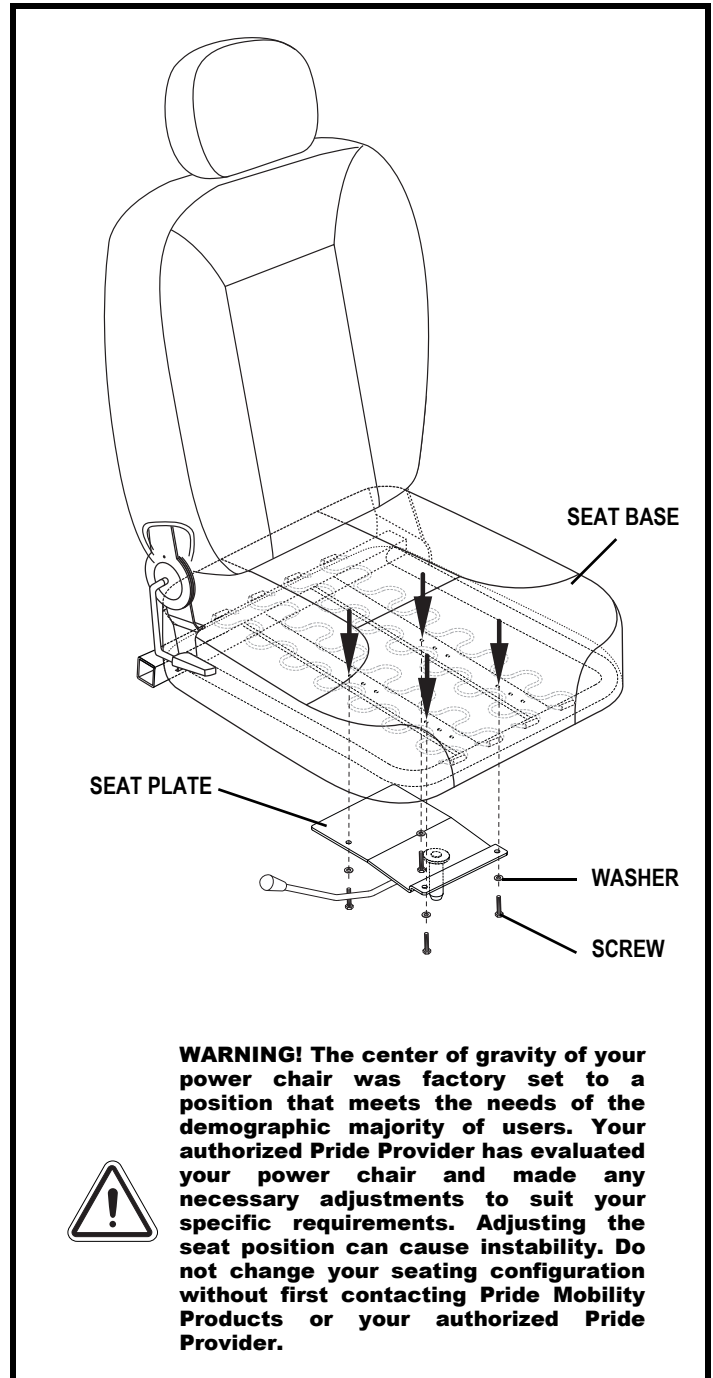

Figure 11. Seat Position Adjustment
5. Remove the screws and washers from the bottom of the seat plate. **See figure 11.**